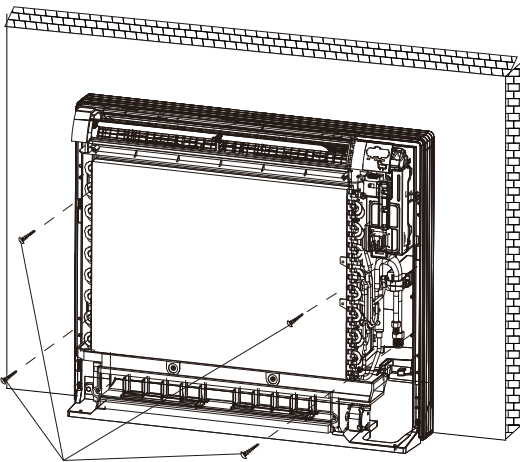

Figure 3.4
- Using 4 screws to screw the indoor unit. (Refer to Figure 3.4)